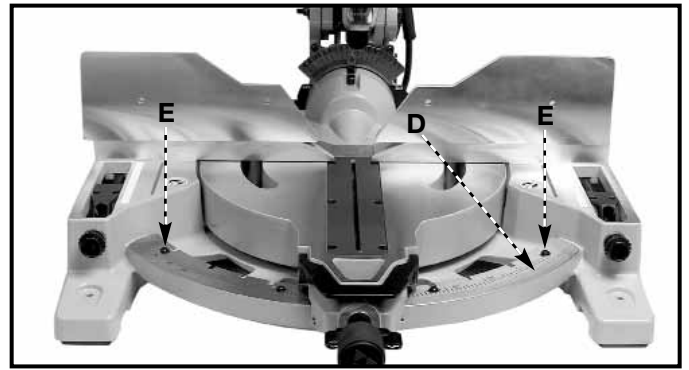

Fig. 6
NOTE: This saw incorporates a new slotted plate design feature (D) Fig. 6 with location adjustment screws (E) for fine-adjusting the cutting angle.